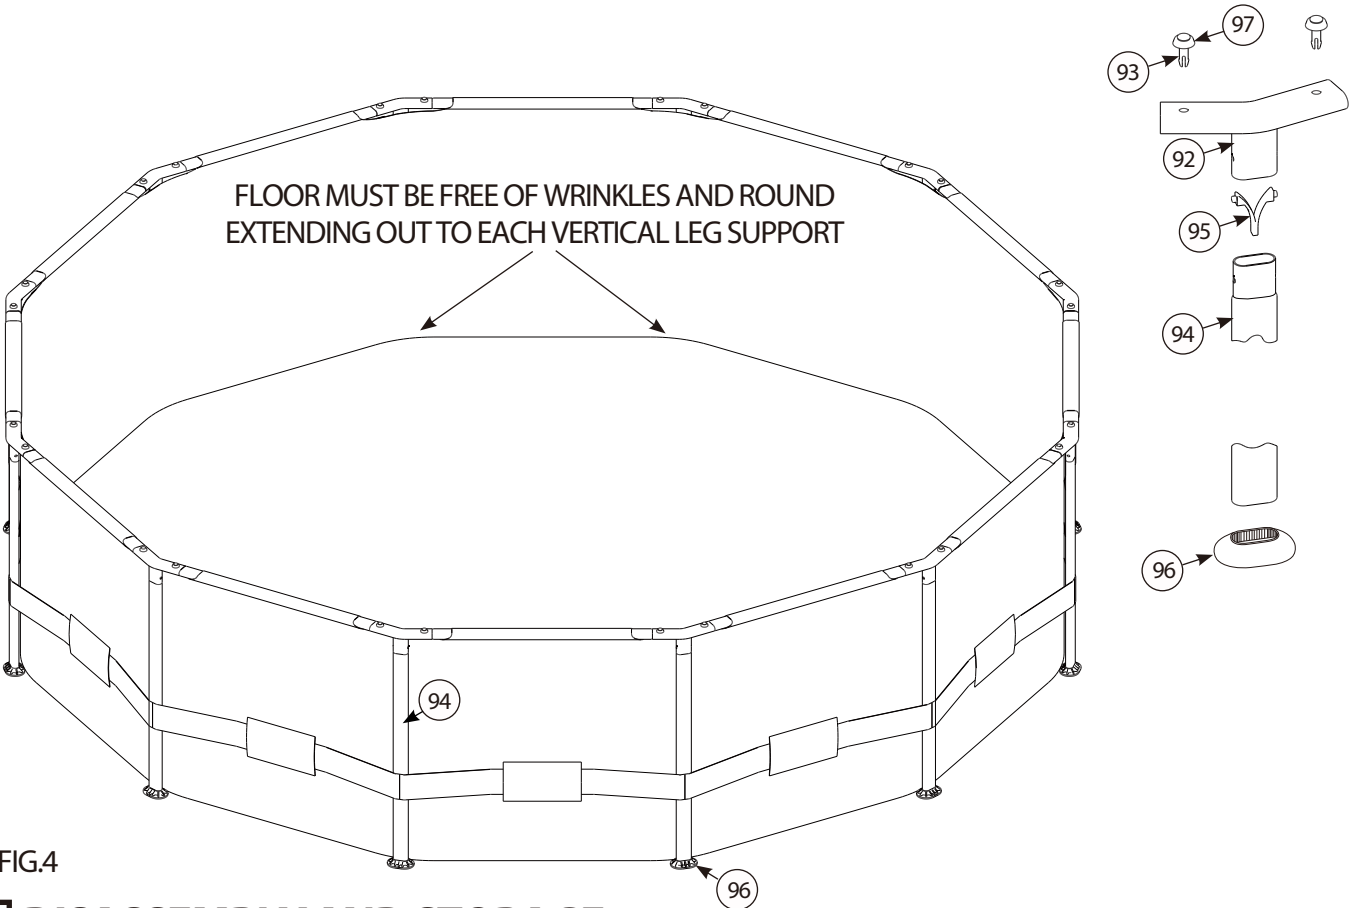

FIG.4
- D. Once the top frame is assembled, locate the Vertical Legs (94). The Vertical Leg sections will have a Spring Pin (95) pre-installed at the top end. First, insert the leg down through the belt that runs around the middle of the pool, see Fig. 4. Now, to connect them into the top frame, push the buttons in as you insert the Leg up into the Tee Fitting. Look through the hole in the Fitting as you insert and rotate the pipe until the buttons align with the holes and pop out, locking the leg in place. Finally, take one of the Leg Caps (96) and insert the bottom of the Vertical Leg into it until it stops.
NOTE: AFTER ABOUT 1-INCH OF WATER IS ON THE BOTTOM, STOP FILLING AND SMOOTH WRINKLES OUT OF THE BOTTOM OF THE POOL MAKING SURE THE POOLS BOTTOM IS FLAT AND ROUND EQUALLY IN ALL DIRECTIONS. SEE FIG. 4 BELOW